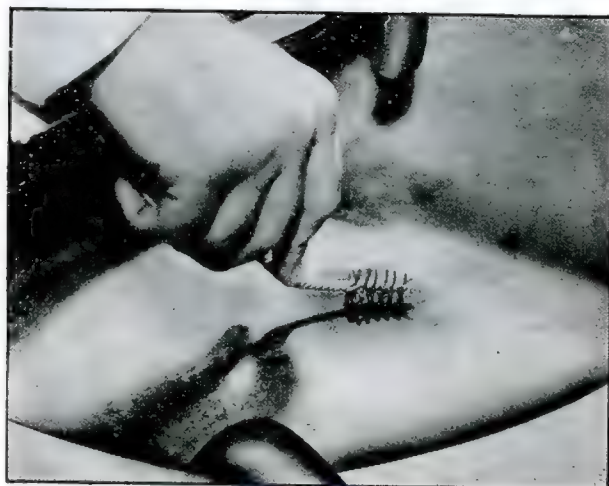

Fig. 9—Roughening Injury Area
4. Roughen area around injury with hand buffer or wire brush, See Figure 9.